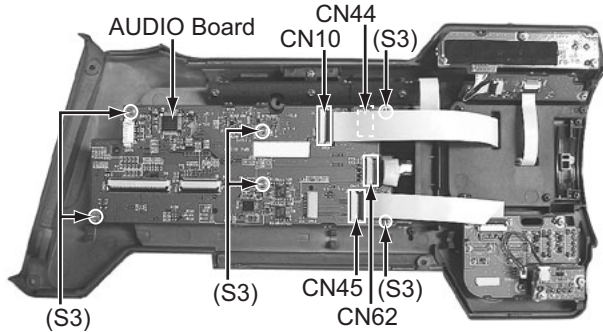

Fig.15
3.4.1 Removing the AUDIO board (See figure 15)